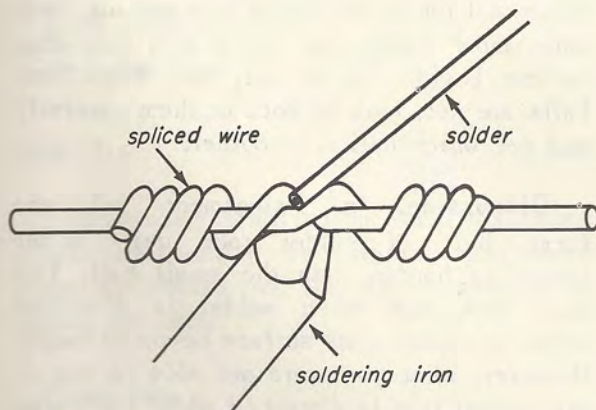

Fig. 1-7
**Soldering A Joint.** The next step is to apply the soldering iron to the joint. In soldering a wire splice, hold the iron below the splice and apply rosin-core solder to the top of the splice, as shown in Fig. 1-7. If the tip of the iron has a little bit of melted solder on the side held against the splice,